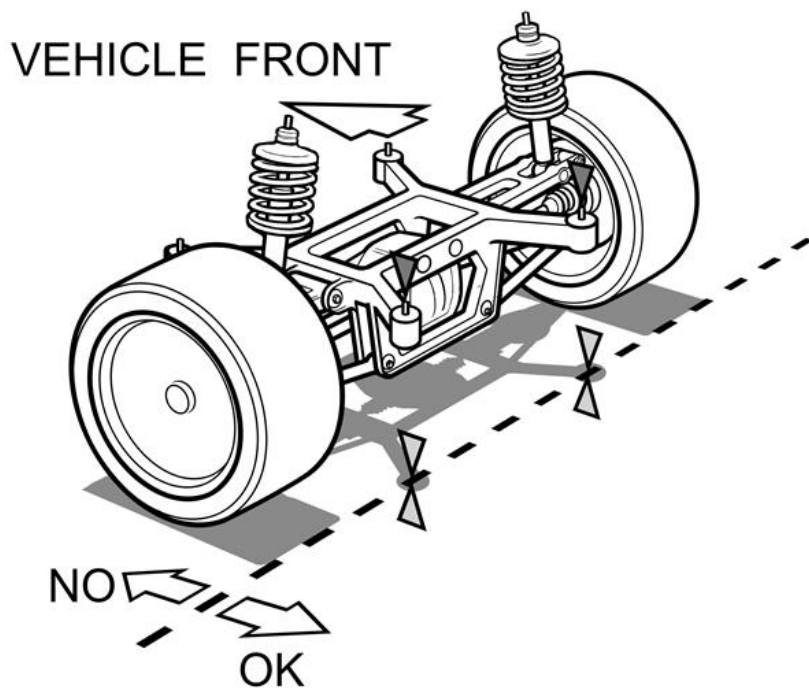

Figure 3
- E. Rear suspension examples are in Figures 3 and 4.